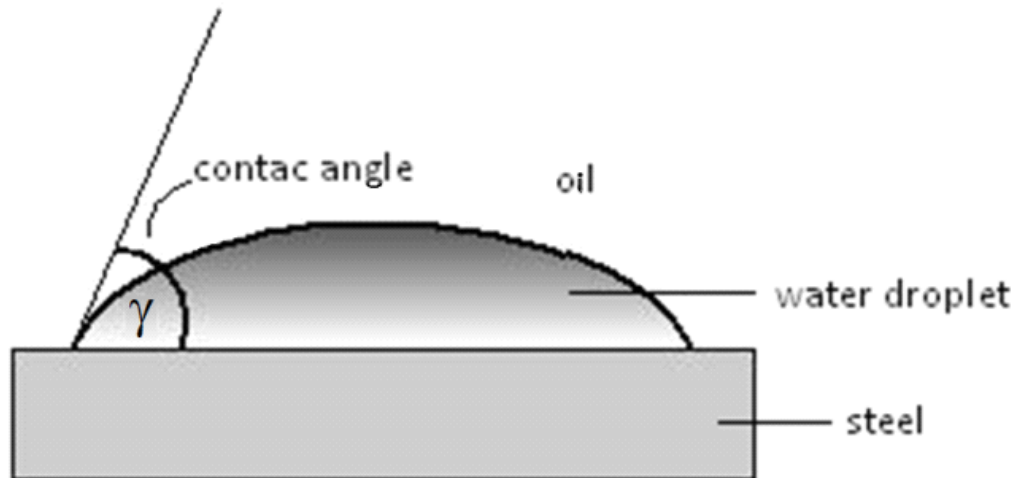

Figure 2. Schematic representation of a water droplet wetting the steel surface
- **Contact Angle** – the wetting angle formed at the water/oil boundary when water is in contact with steel surface. As shown in Figure 2, the wetting angle refers to the angle  $\gamma$  the water droplet makes when it spreads on a steel surface in the bulk oil environment.